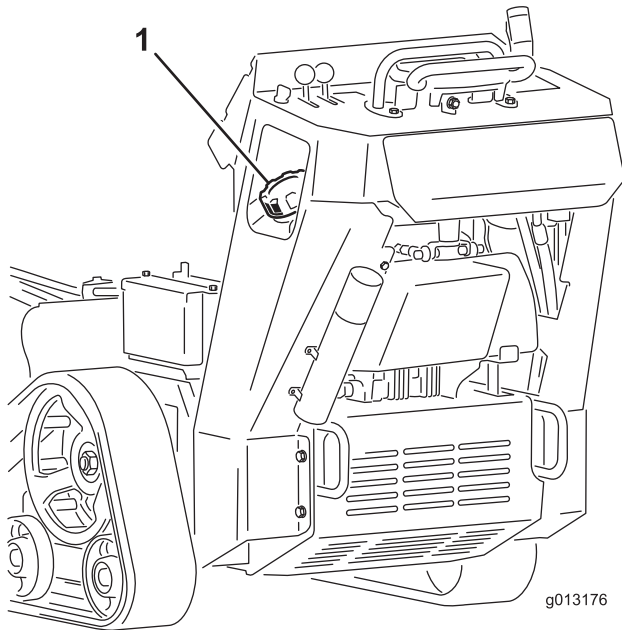

Figure 16
3. Clean around the fuel tank cap and remove it (Figure 16).